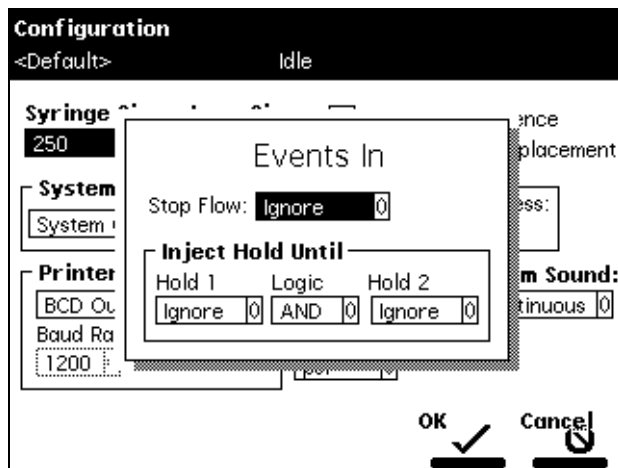

Figure 3-8 Events In Dialog Box
1. In the Configuration screen, press the **Events In** screen key to display the Events In dialog box (Figure 3-8).